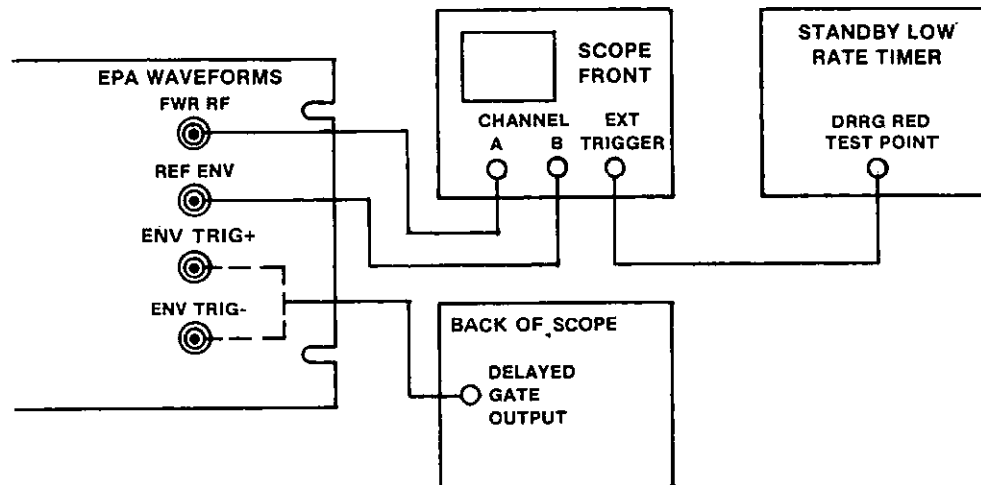

Figure 2.17. Oscilloscope Connections for Monitoring EPA Waveforms
2.0.3.7 Observe the EPA Full Wave Rectified RF, Reference Envelope, and chart recorder drive as follows (see Figure 2.17):